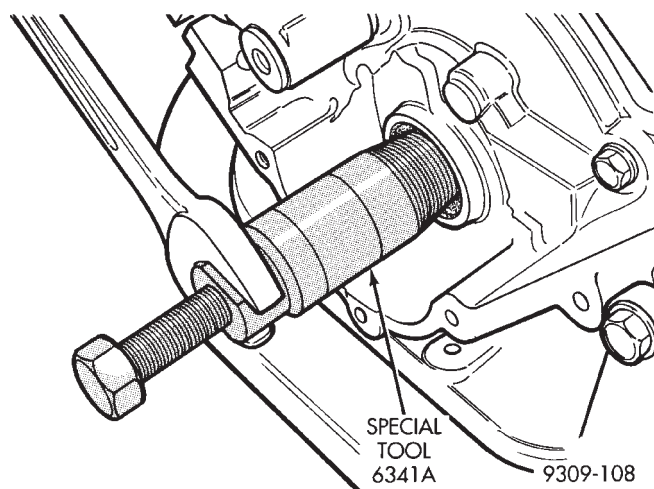

Fig. 80 Crankshaft Oil Seal with Special Tool 6341A—Removal
(4) Remove crankshaft seal using Special Tool 6341A (Fig. 80).